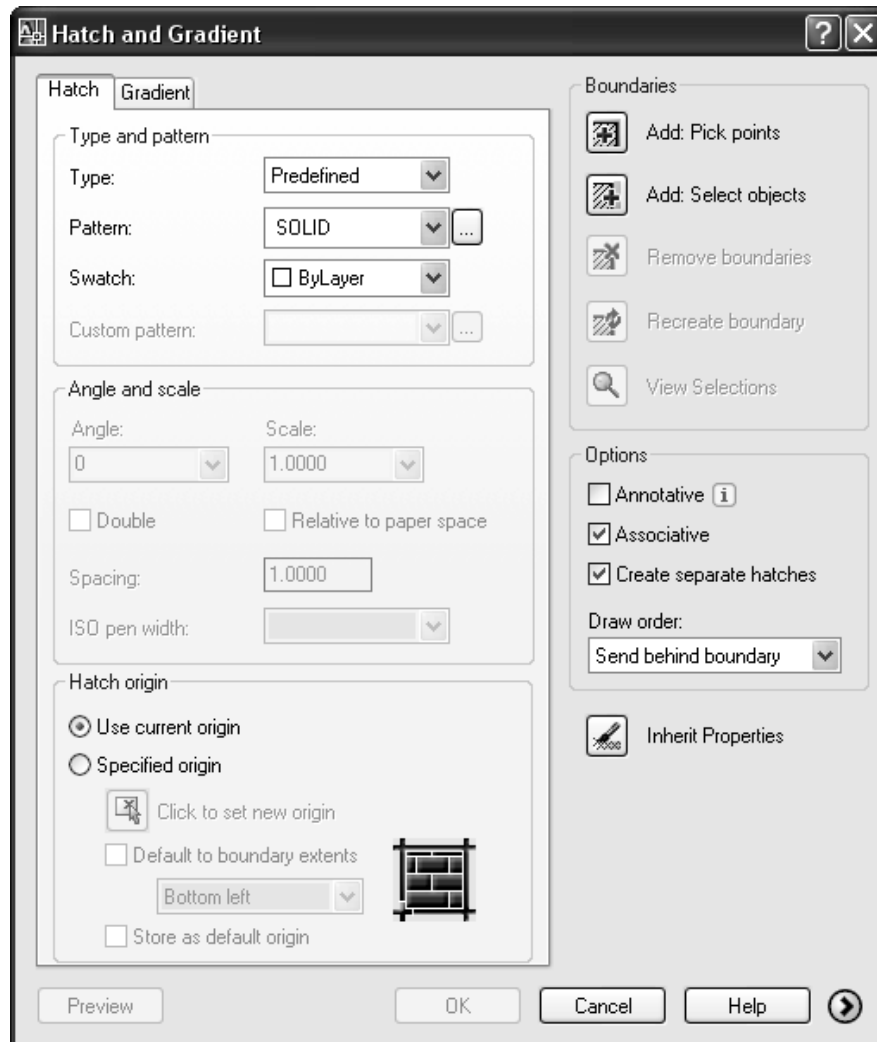

Figure 3-5.3 Hatch dialog box
4. Set the hatch *Pattern* to **Solid** (Figure 3-5.3).
5. In the *Options* area, check **Associative** (Figure 3-5.3).
6. In the *Options* area, check **Create separate hatches** (Figure 3-5.3).